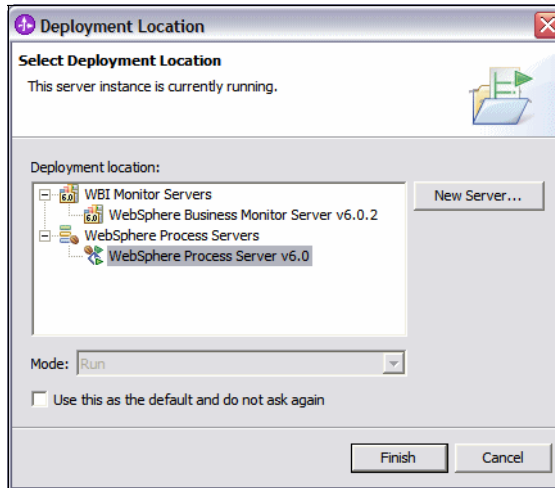

Figure 10-33 Testing: Deployment location
- ▶ Select the deployment location as *WebSphere Process Server v6.0* and click *Finish* (Figure 10-33).